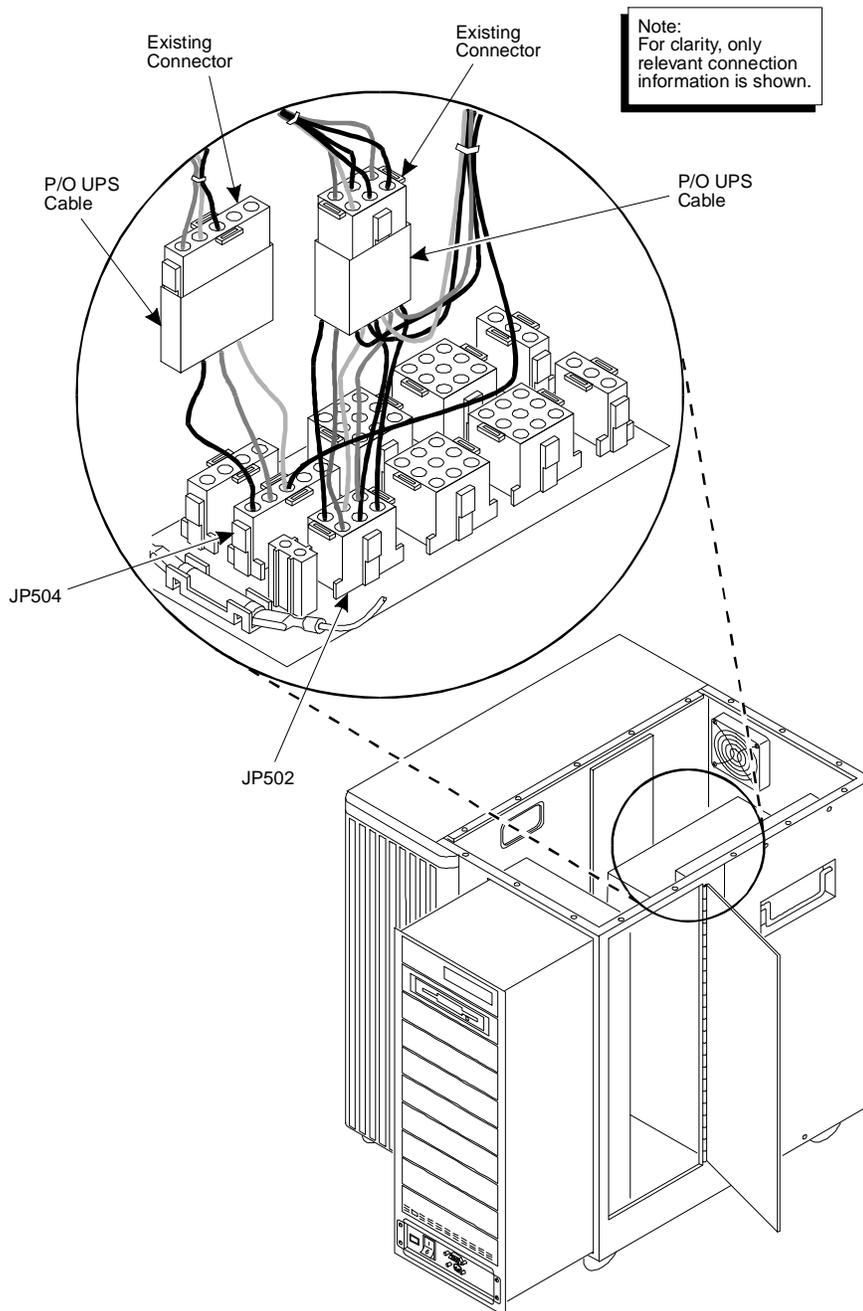

Figure 9-28. Uninterruptible Power Supply (UPS) Connections
2. Verify that the Remote Maintenance circuit card uninterruptible power supply (UPS) cable is connected to the MAP/100 UPS and UPS status cable as shown in Figure 9-28.